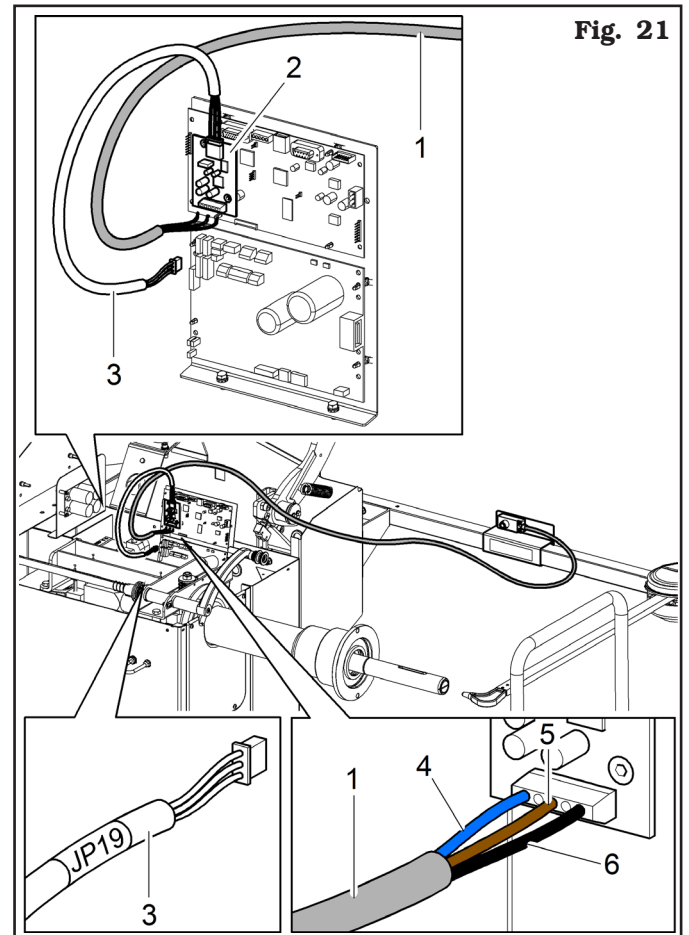

Fig. 21
5. Mount the card (**Fig. 21 ref. 2**)(# 18363), as shown in **Fig. 21**.
6. Connect connector of GAR214TK cable (**Fig. 21 ref. 1**) to the electronic card (**Fig. 21 ref. 2**)(# 18363), as shown in **Fig. 21** (blue **ref. 4 cable**, brown **ref. 5 cable** and black **ref. 6 cable**). Connect GAR214TK card (**Fig. 21 ref. 2**)(# 18363) to the wheel balancer main card, using the supplied cable JP19 (**Fig. 21 ref. 3**). Carry out the connection as shown in **Fig. 21**.